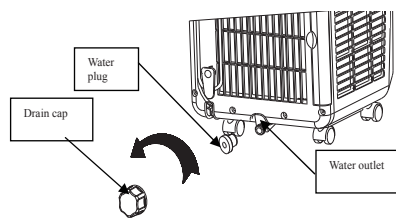

Figure 11
- 1). Screw off the water cap in the direction shown by the arrow and unplug the water plug; (Figure 11)